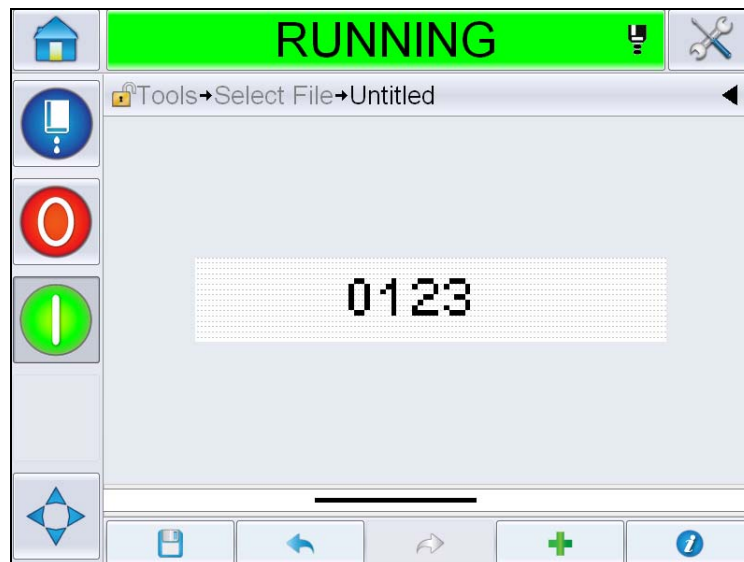

Figure 5-34: Counter Field on Message Page
- 14 Select and set the parameters as per the requirement and touch OK. The message with selected format is displayed on the *Message* page (Figure 5-34). Proceed to Step 18 on Page 5-39 to save the message or go to the next step to add another field.